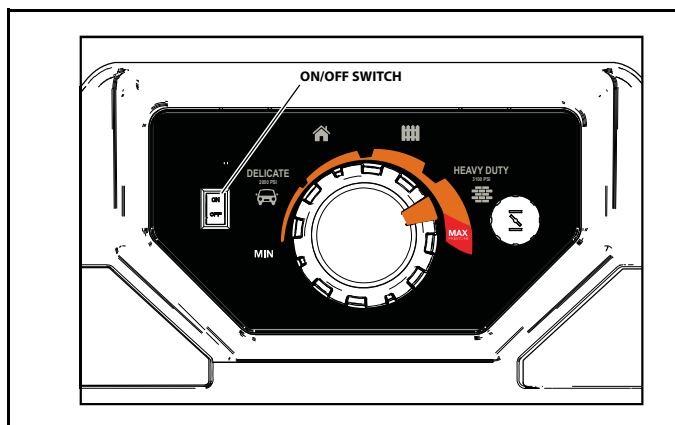

Figure 5-2. ON/OFF Switch
1. Turn the ON/OFF switch to the "ON" position (Figure 5-2).